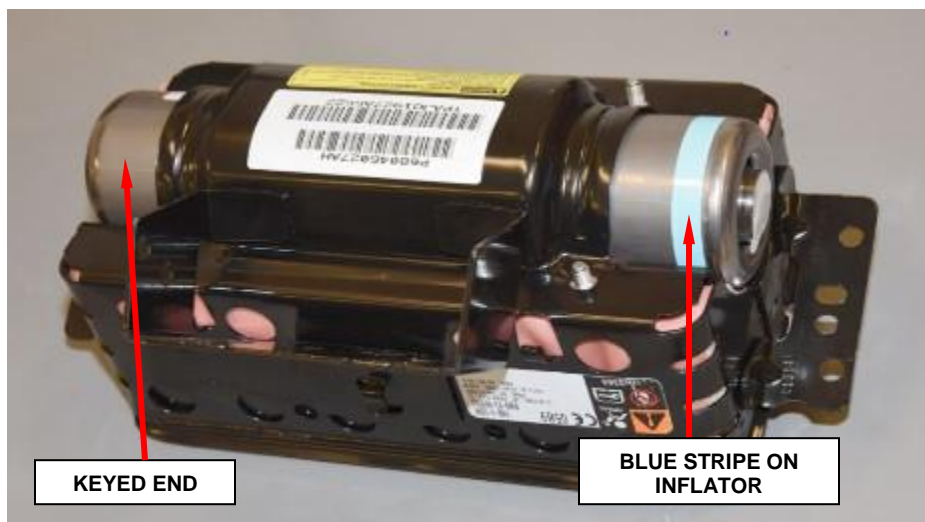

Figure 41 – Insert Inflator (Shown with Cushion Installed)
- j. Slide **new** inflator into housing. The keyed end is inserted first, therefore the blue stripe on the inflator will be located at the open end, as shown (Figure 41).